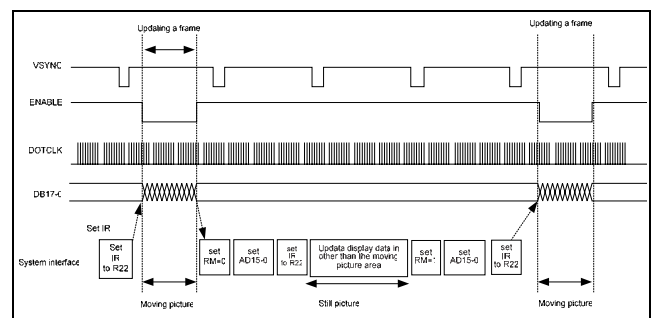

Figure 8-19
**Figure 8-19** illustrates the timing diagram when displaying a moving picture through the RGB interface and rewriting data in the still picture GRAM area through the system interface.